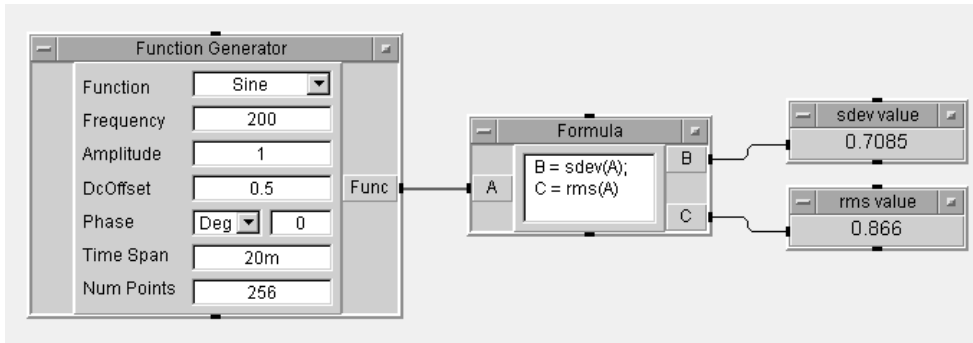

Figure 5.4. Using one Formula Object to compute two parameters
8. Modify this newly saved program to calculate two formulas within one Formula Object. See Figure 5.4. Save this modified program. Run this program.